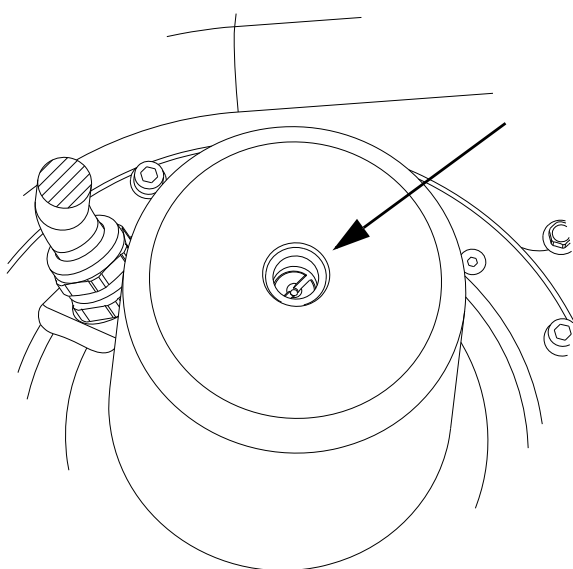

Fig. 32 Top of slotted motor shaft
- The top of the motor shaft is now visible. See fig. 32. Check that rotor and impeller can be turned freely by turning the shaft with a large slotted screwdriver.